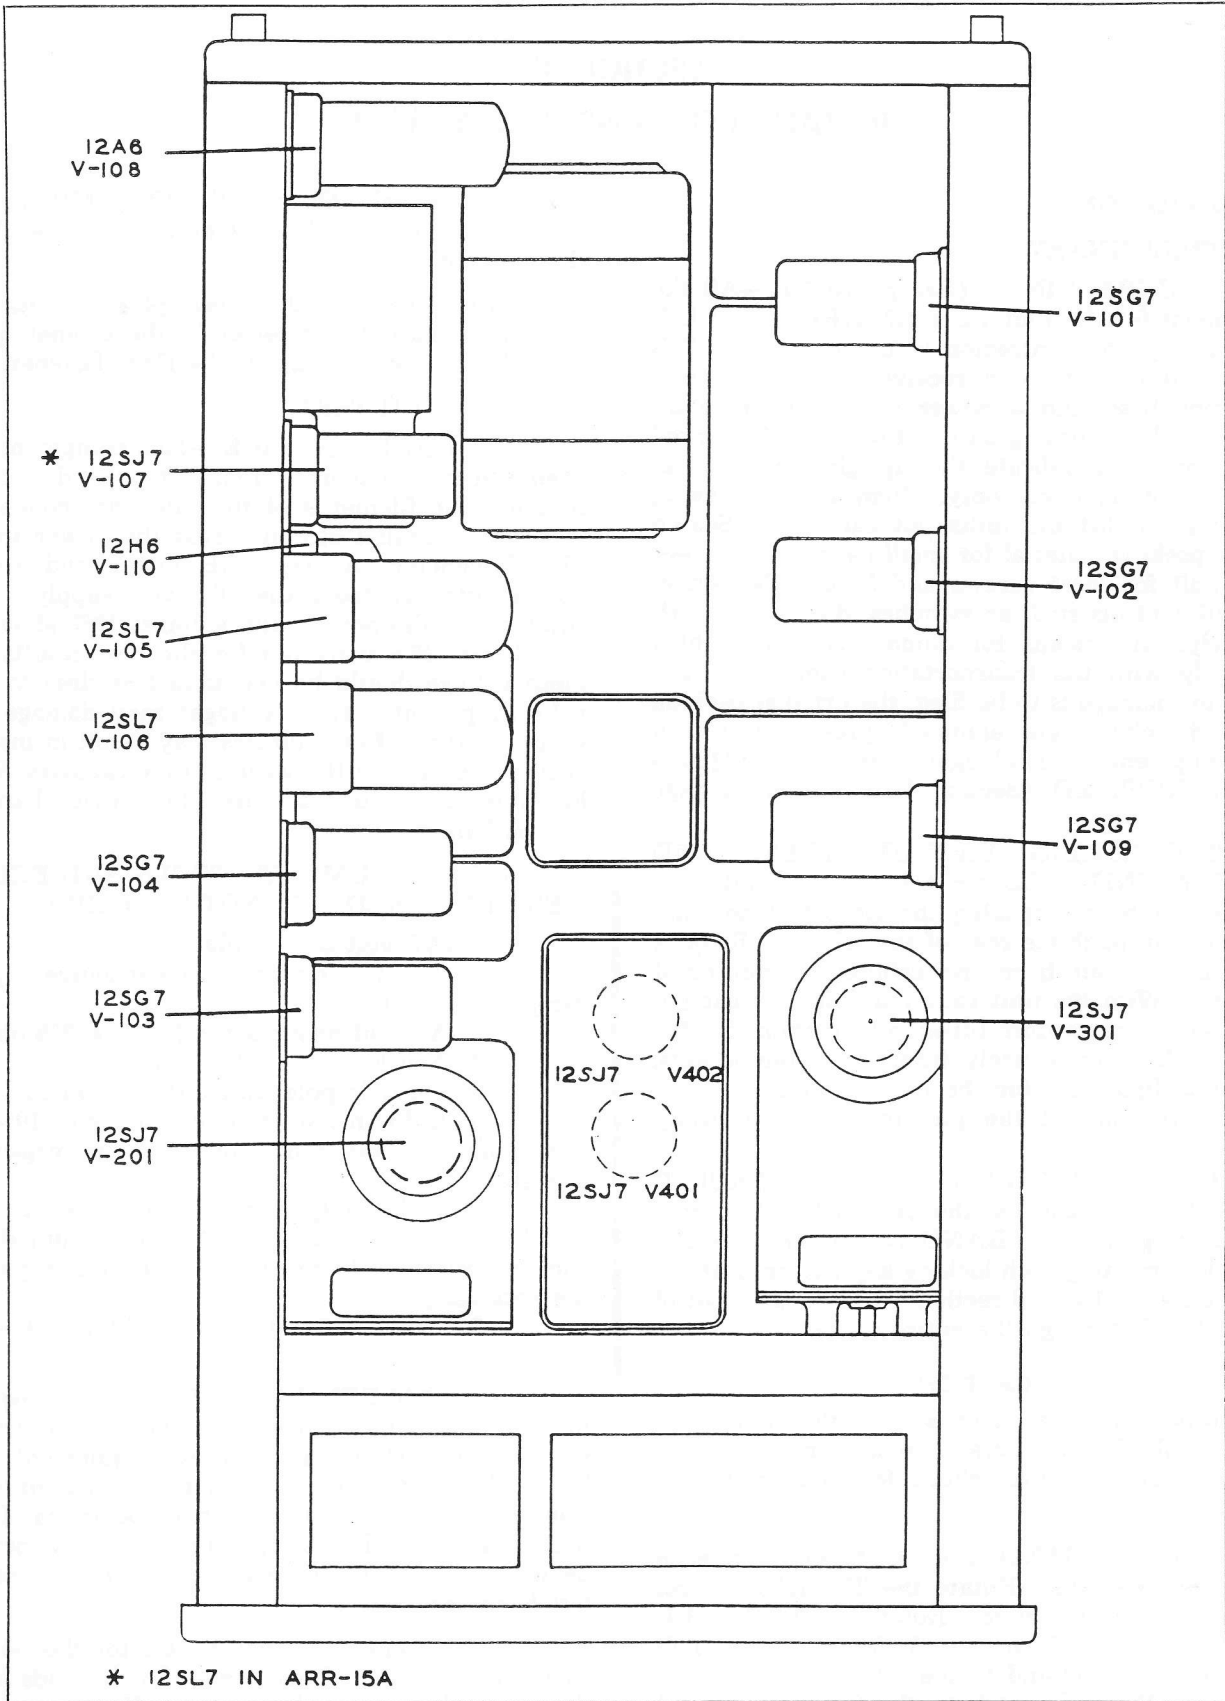

Figure 2-2. Tube Placement Diagram
(2) CHECKING VACUUM TUBES AND PLUG-IN UNITS.—Loosen the receiver unit from the cabinet by disengaging the Dzus fastener that protrudes through the rear of the cabinet. Remove the receiver unit from the cabinet by pulling it forward. With the unit removed from the cabinet check all of the vacuum tubes to be certain that the proper tubes are securely inserted in the sockets. (Refer to figure 2-2 for the location of the tubes.) Make sure that all the plug-in units are firmly fastened.
(3) CHECKING CONTROLS FOR PROPER OPERATION.—Unlock the AUTOTUNE mechanism that operates the BAND switch and TUNING control by rotating each locking key two revolutions in a counterclockwise direction. Check each control by rotating it through the entire range.